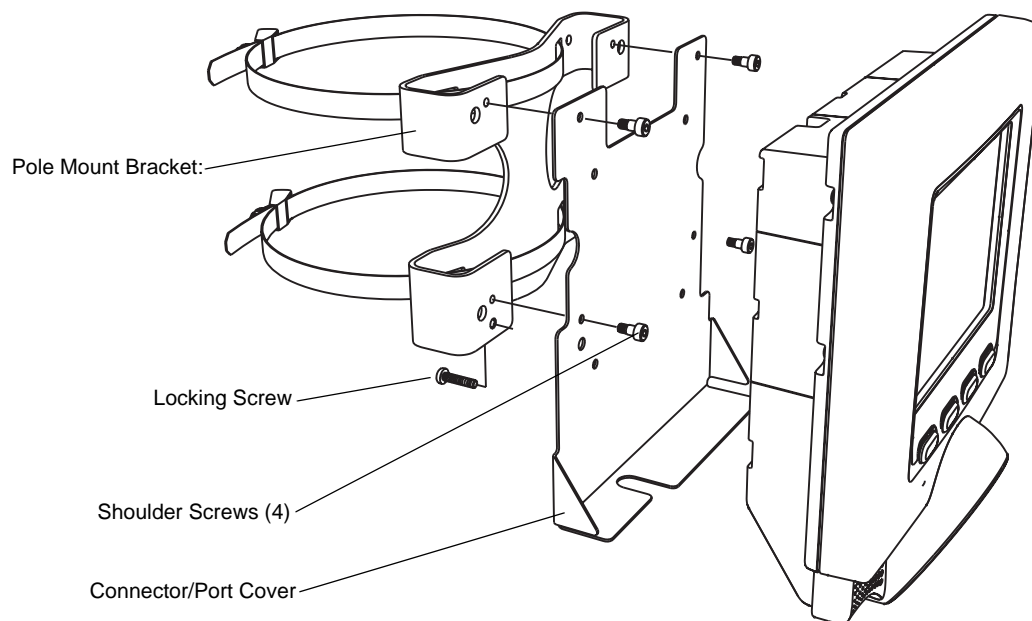

Figure 2-5 Pole Mount Kit
5. Screw one 8-32 pan head locking screw into the pole mount bracket bottom left tab. See Figure 2-5 on page 2-6. Hand tighten the locking screw, or for additional security use a nylon locknut (not included), to prevent removal of the device.